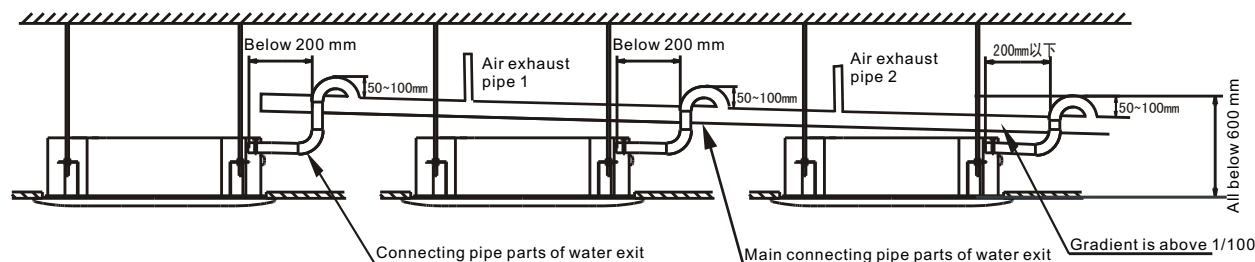

Figure 4.2 Drainpipes of Several Unites Connect with Sewer through Main Drainpipe
8) If the exit of drainpipe is higher than pumping connecting pipe of main body, drainpipe should be kept vertical upwards as it is possible. The connecting pipe part of water exit has the function of bending vertically and the drainpipe should be set within 600 mm from water tray. Otherwise, when it stops, too much water that flows back will cause overflow. (See Figure 4.2)